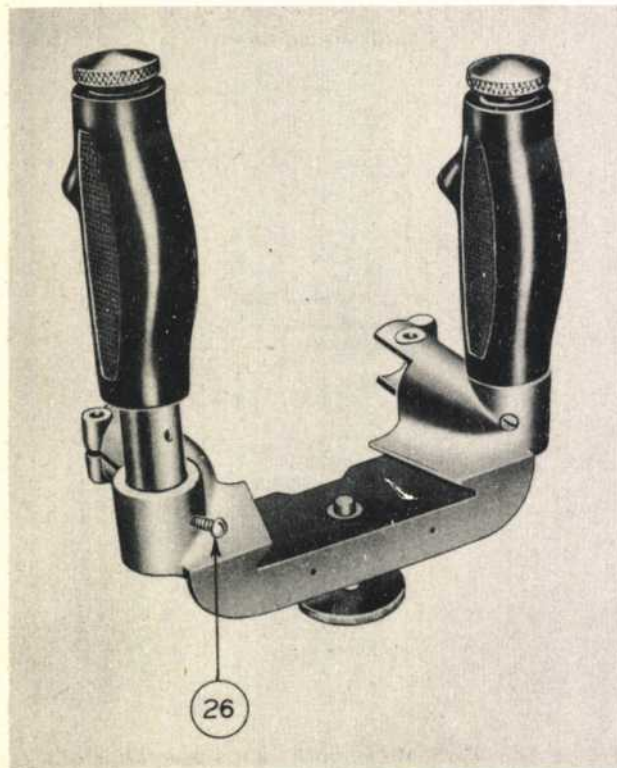

Figure 17—Disassembling Handgrips
g. Handgrip and pin assembly (figures 17 and 18) is disassembled by removing hand grip retaining screw (26).
f. Assemble handgrip and pin assembly to rear support. (See figure 17.)